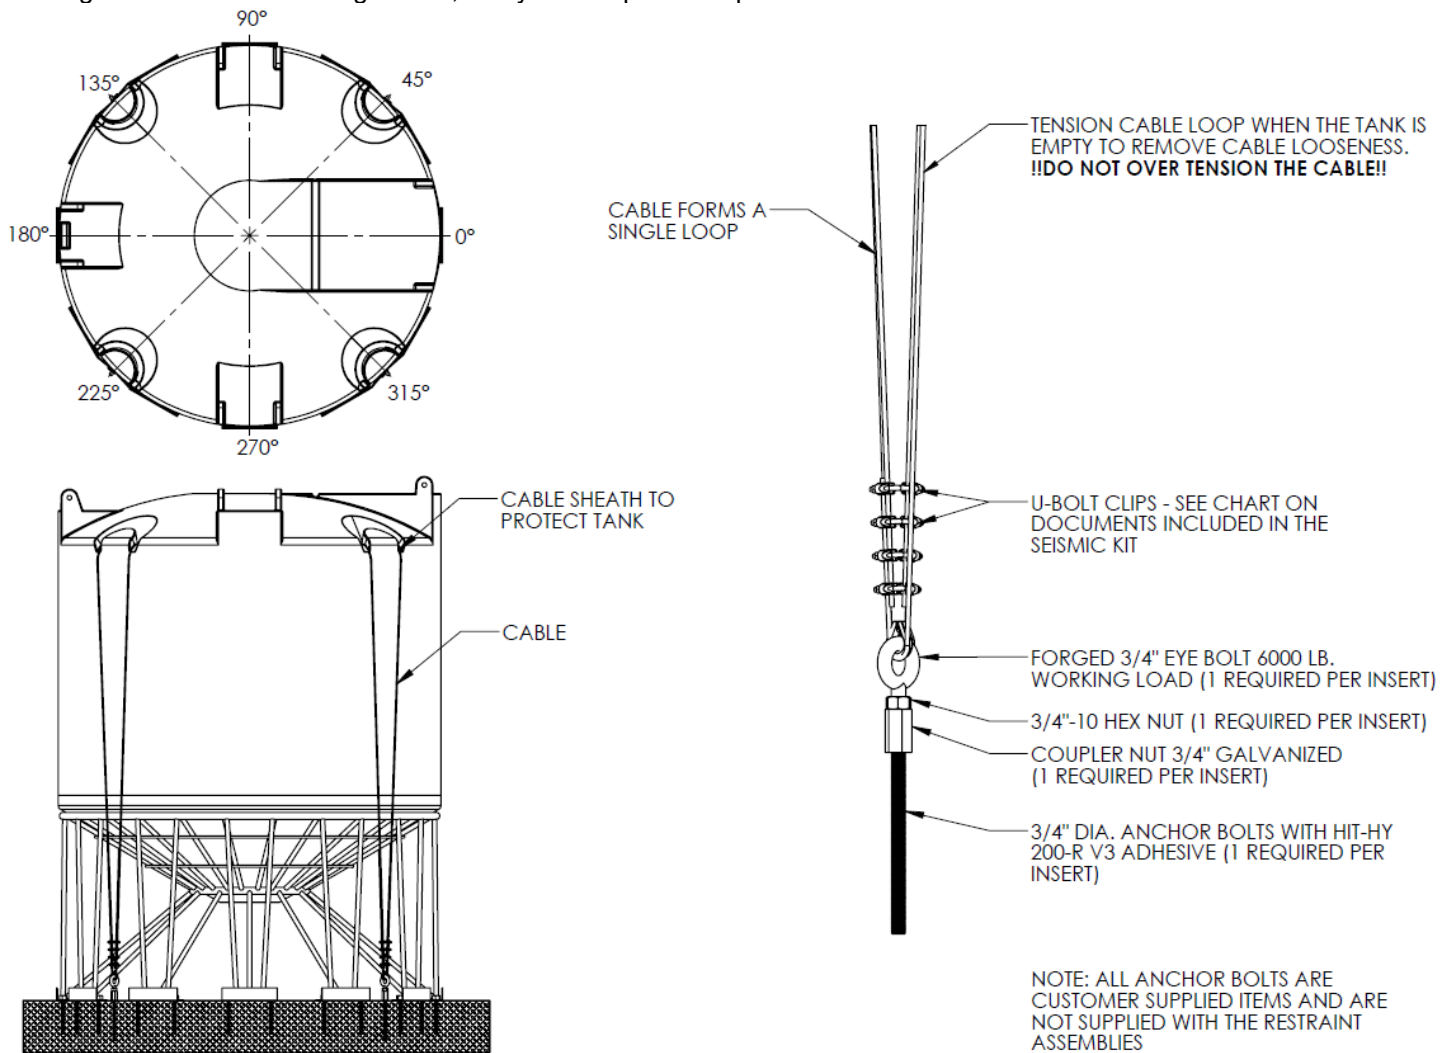

Figure 8.2
8.2.1 The wind/seismic tank restraint system is designed for cone bottom tank restraint on an appropriate concrete pad under 150 MPH wind or IBC/CBC seismic conditions using a SII cone stand for proper tank support. Using the assembly drawing and table shown in Figure 8.2, verify that all parts are present.